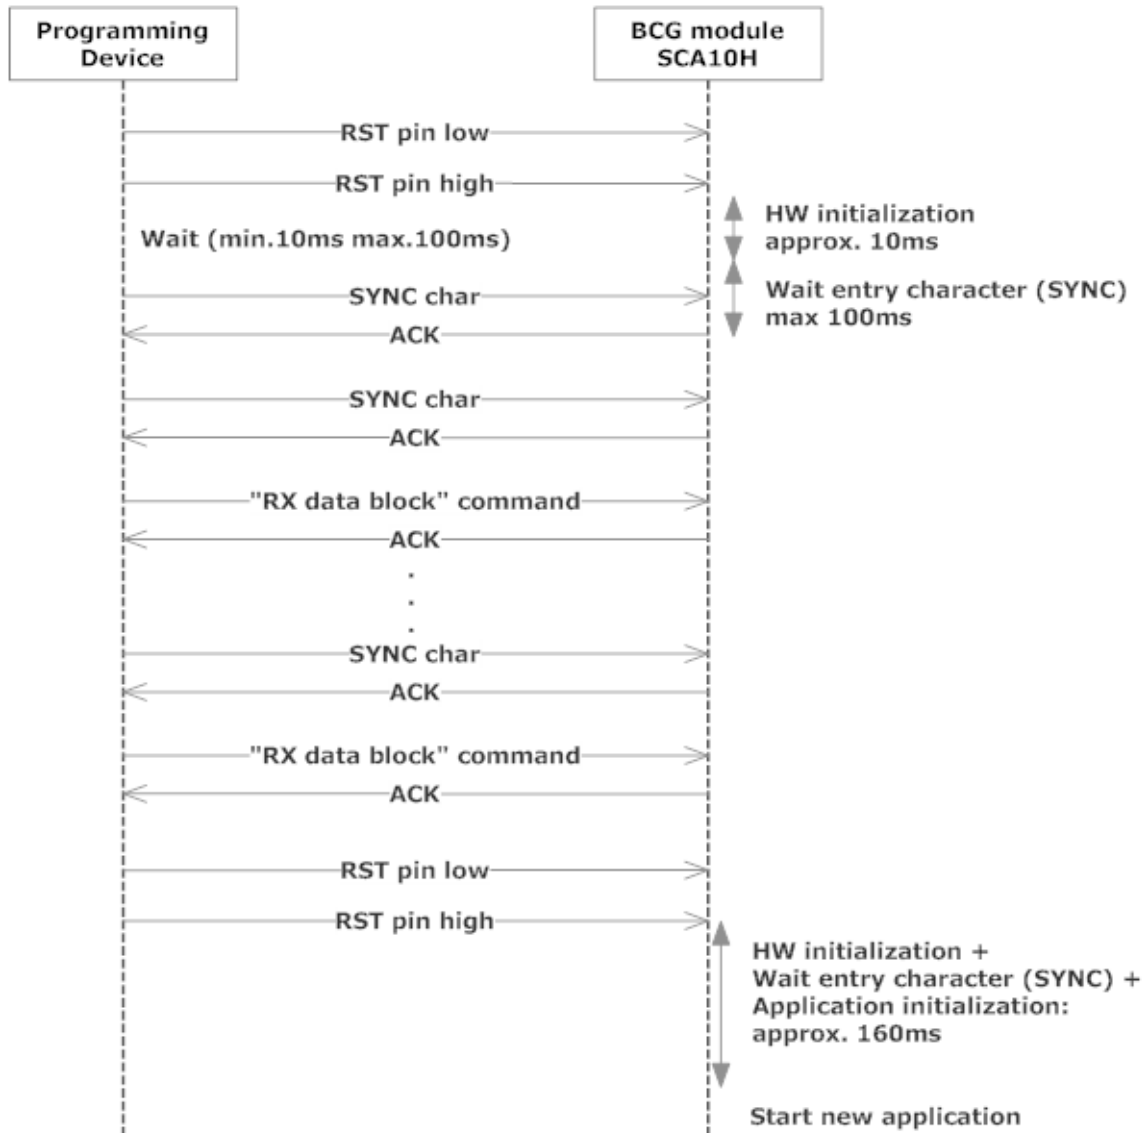

Figure 3 Simple programming flow
1. Connect the Silabs cp2102 to SCA10H as shown in Figure 3.